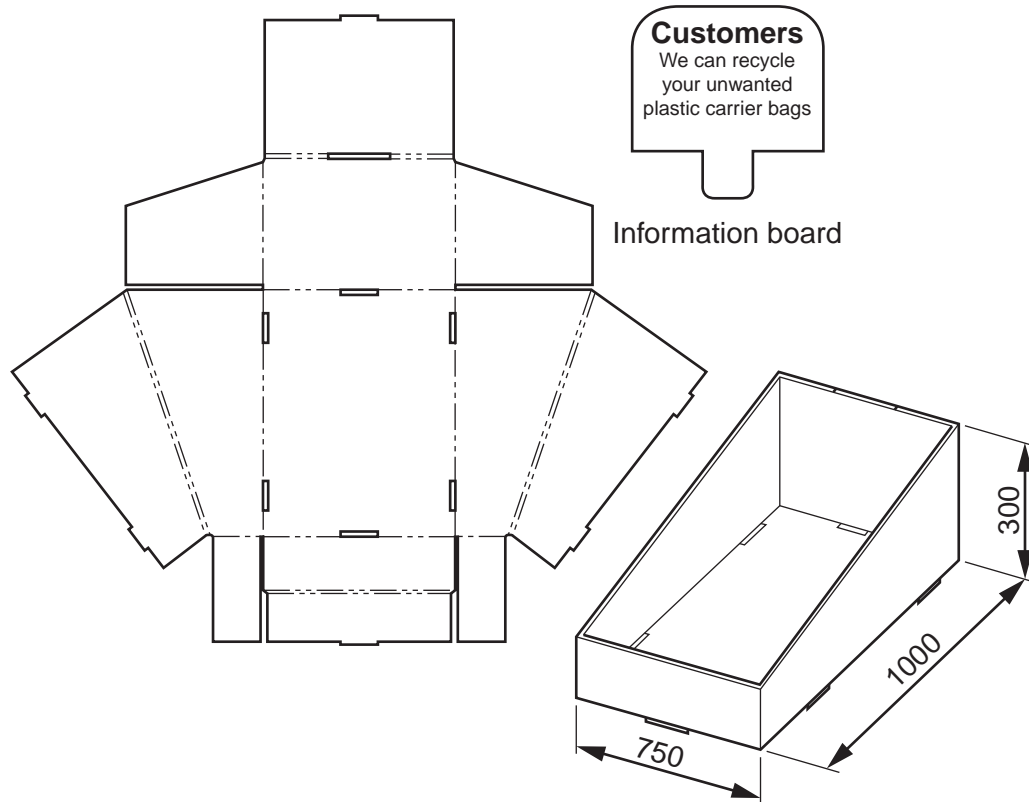

Fig. 5
- 4 Fig. 5 shows a design for a large container which is to be located in a shop, for collecting unwanted plastic carrier bags.